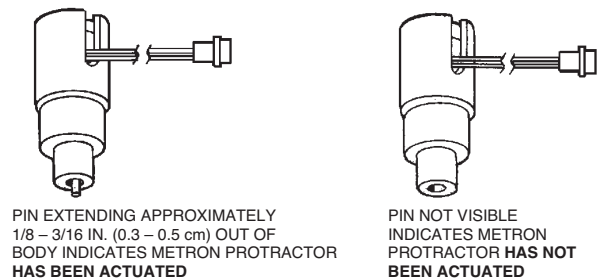

FIGURE 9
6. Discard used METRON PROTRACTOR assembly. A discharged METRON PROTRACTOR will have the stainless steel pin extending approximately 1/8 – 3/16 in. out of the bottom. On a new METRON PROTRACTOR, the pin will not be visible. See Figure 9.